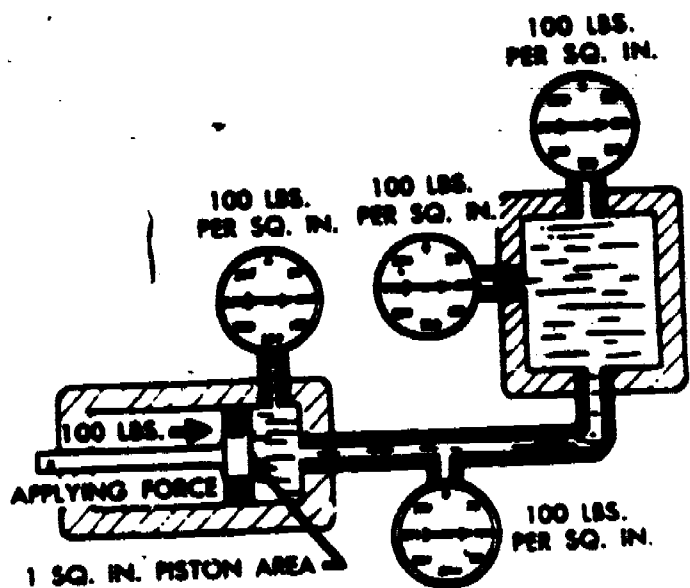

Figure 10. Equal Pressure Through System.
3. A liquid under pressure transmits pressure equally in all directions. A pressure gage placed anywhere in a closed hydraulic system will read the same at any point, figure 10.